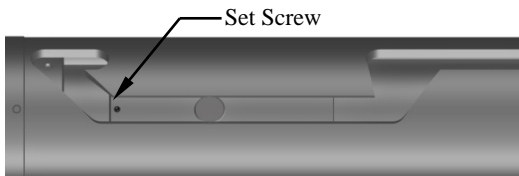

Fig. 6
L-2.16) Screw set screws (21) into J-pin bottom sub (23). Move J-body assembly as needed to access threaded holes (Fig. 6).